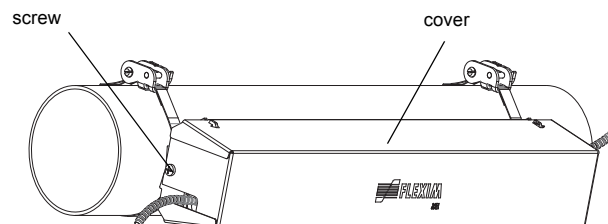

Fig. 7.19: Variofix C with transducer on the pipe
- Put the cover on the rail (see Fig. 7.19).